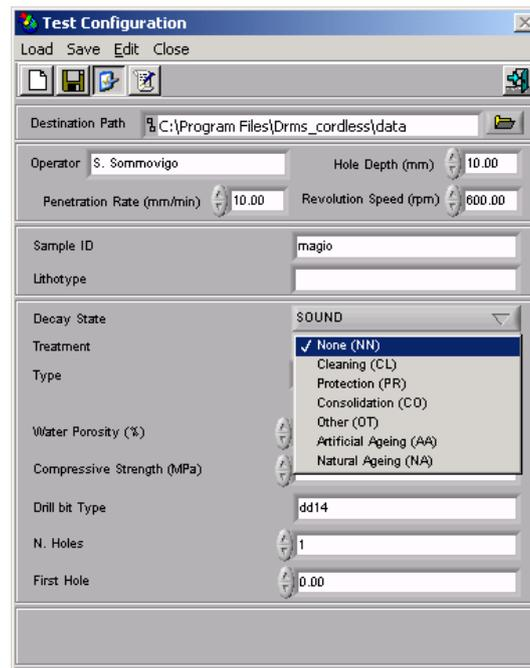

Figure 13 - Treatment options
3. Treatment: any treatment of the material under testing (Figure 13). You can choose from NONE (NN) - Cleaning (CL) - Protection (PT) - Consolidation (CO) - Other (OT) - Artificial Ageing (AA) - Natural Ageing (NA)